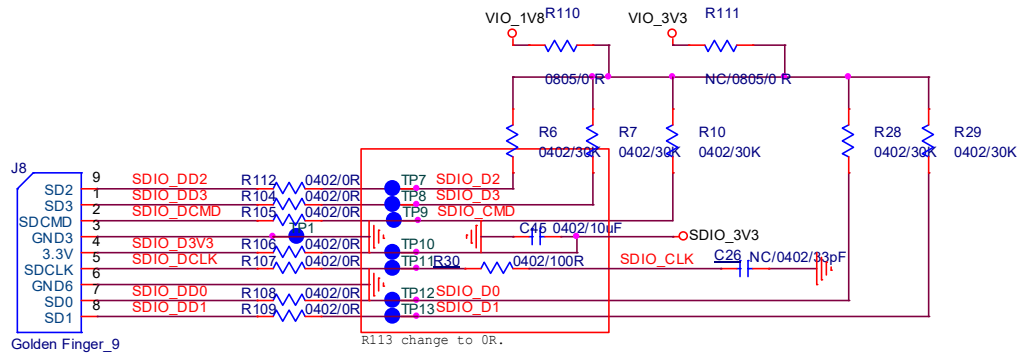

Figure2. WiFi verification connection interface to Host SDIO as using SDIO2.0
- ❖ Refer to Figure2 SDIO pin definition connects the J8 interface of AP5811SA evaluation board to Host SDIO control interface.